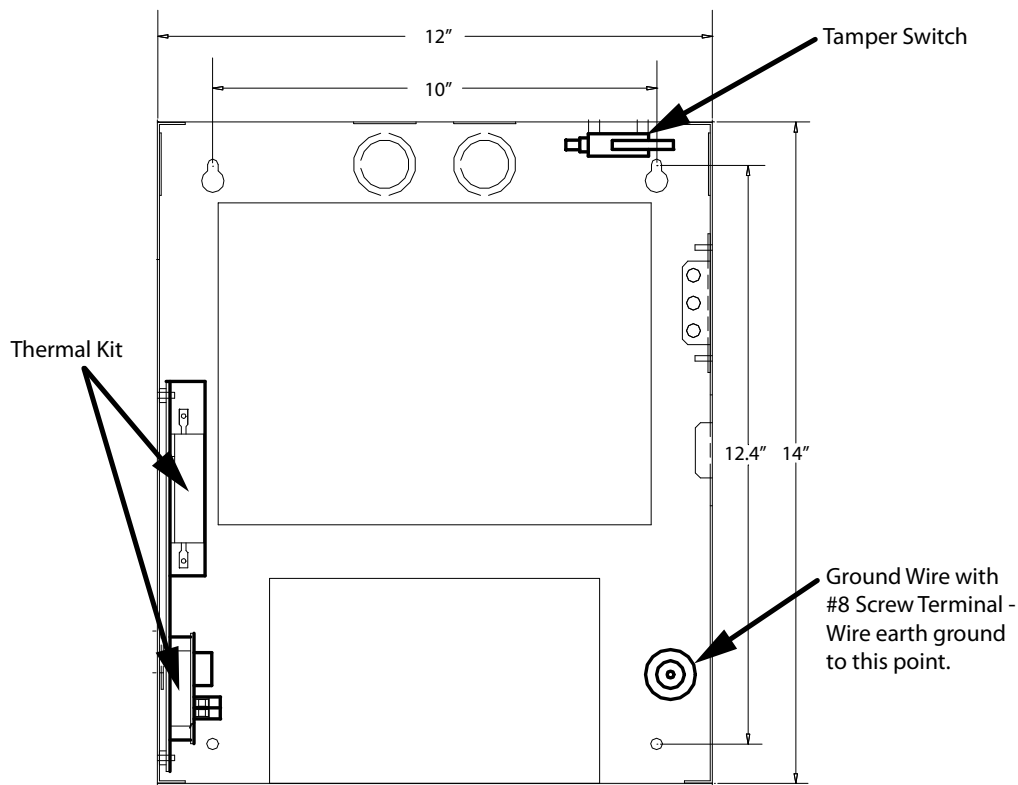

Figure 3. Controller Back Cover Dimensions and Optional Component Location
The card reader controller is surface mounted with four screws as shown in Figure 3.
1. Using the controller back cover as a template mark the top two mounting hole locations 10" apart as shown in Figure 3.
Install the thermal kit inside the back cover on the left side in the location as shown in Figure 3.
An optional tamper switch may be installed as shown at the top right corner of the back cover as shown in Figure 3. The tamper switch wire connects to the general purpose input and correlated to a specific output (action). For a complete description of correlations see Chapter 3 Configurable Features.